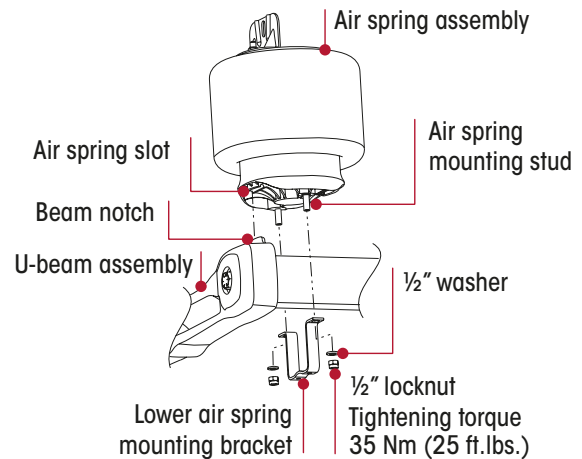

Figure 119: PRIMAAX EX Air Spring – Integrated End Cap
15. Install the air spring between the frame and the cross tube. Ensure the air spring slot in the bottom of the air spring engages the beam notch on the top of the support beam. Refer Figure 119.